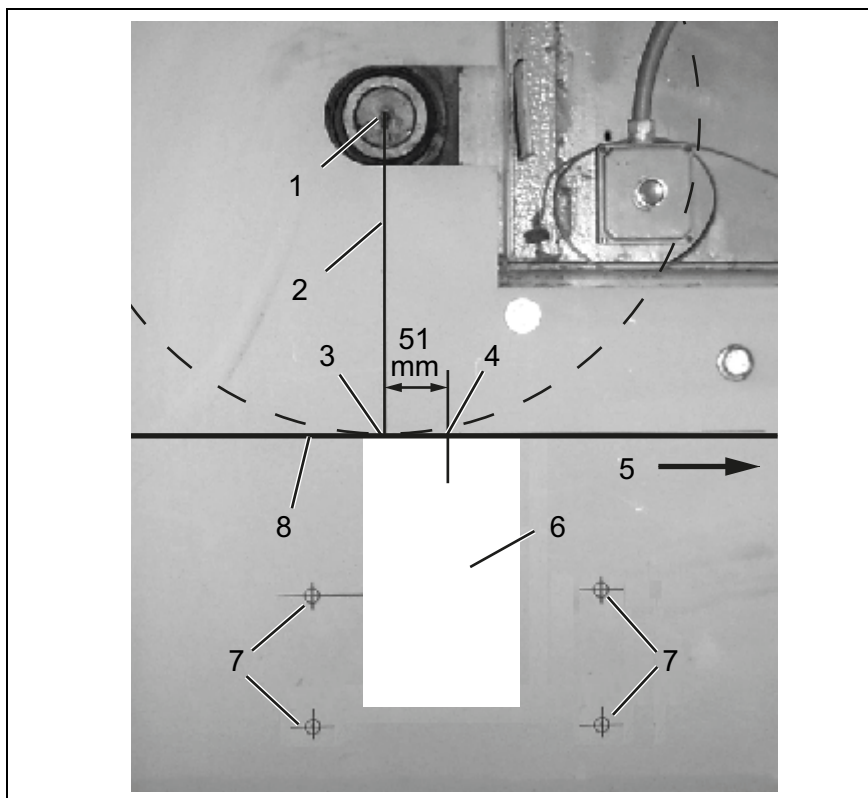

Fig. 1
1. Sketch the lower conveyor belt level (8, Fig. 1) on the operator side of the chute wall.
2. Determine the centre point (1, Fig.1) of the driving drum.
3. Drop a perpendicular (2, Fig. 1) from the centre point to the lower conveyor belt level.
4. Mark a point (4, Fig. 1) at a distance of 51 mm from the exit point (3, Fig. 1) in the running direction of the conveyor belt (5, Fig. 1). This point is the later position of the blade tip.
5. Starting from the point marked in step 4, sketch the cut-out for the installation opening (6, Fig. 1) on the chute wall using the dimensions from Fig. 2.
6. Use the dimensions from Fig. 2 to mark the installation holes (7, Fig. 1) on the chute wall.